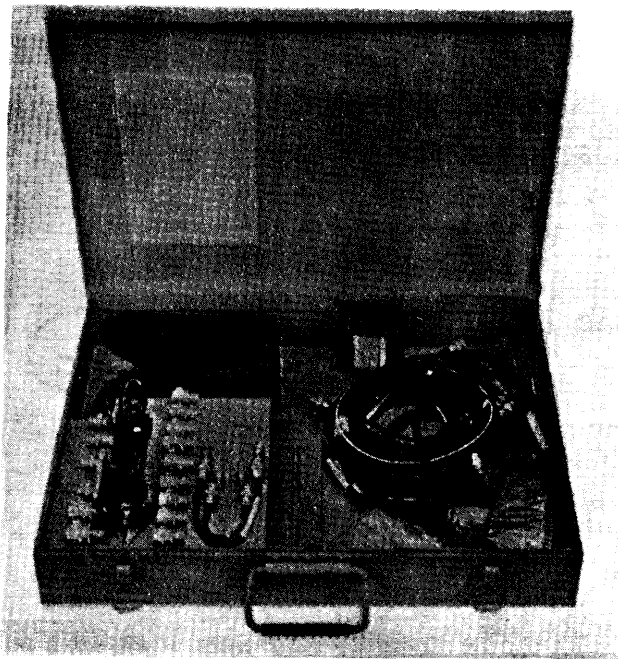

Figure 1-5. Accessories Case CY-2725/UPM-98
d. ACCESSORIES CASE CY-2725/UPM-98. The Accessories Case, shown in figure 1-5, is a carrying case for all accessories listed in table 1-1.